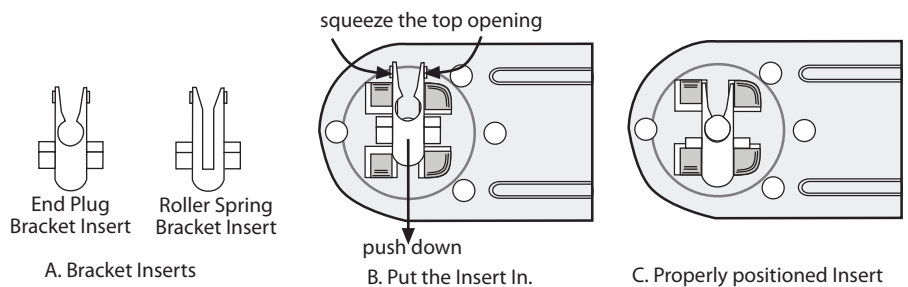

Figure 7. Put bracket inserts in
Step 6. Put the roller spring bracket insert on the roller spring side bracket and end plug bracket insert on the end plug side bracket. Lay the bracket insert on the bracket, push the insert downward into the place while squeezing the top opening as shown in Figure 7.